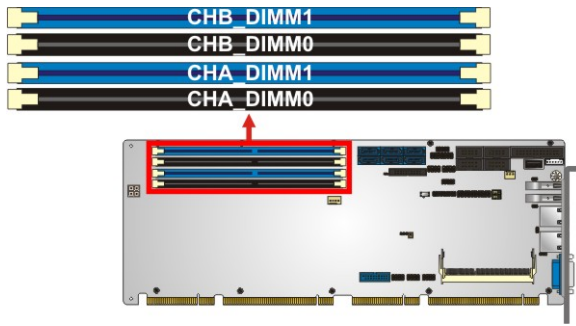

Figure 3-7: DDR4 DIMM Socket Locations
- CN Location:** See **Figure 3-7**